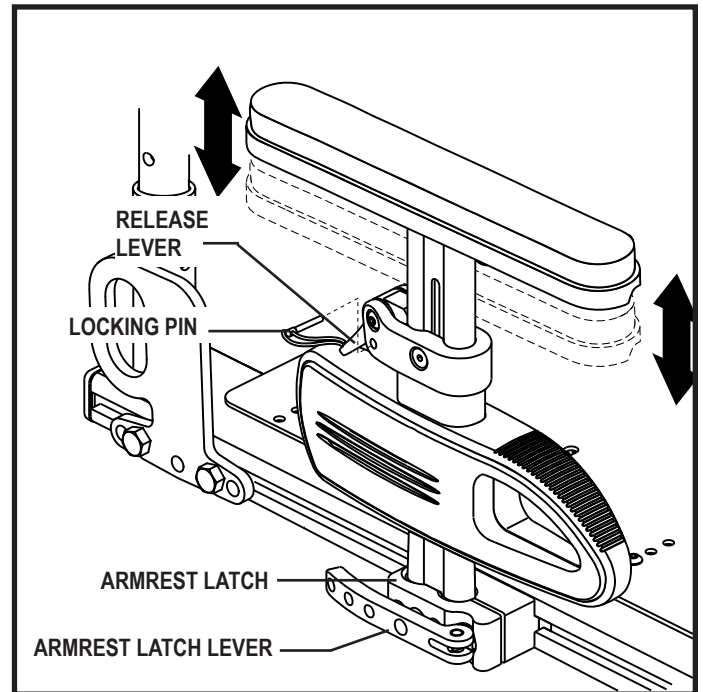

Figure 27. Pediatric Single Post Quick Height Adjustable Armrest Top Height Adjustment
1. If present, remove the optional locking pin. **See figure 27.**